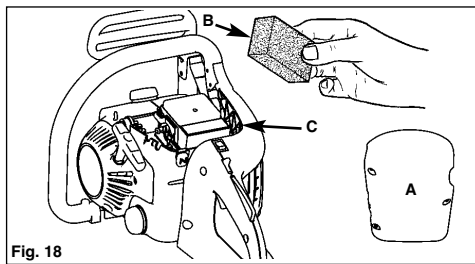

Fig. 18
1. Remove the top cover (A) by loosening the cover retaining screws. Cover will lift off. (Fig. 18)
2. Lift the air filter (B) out of air-box (C) (Fig. 18).